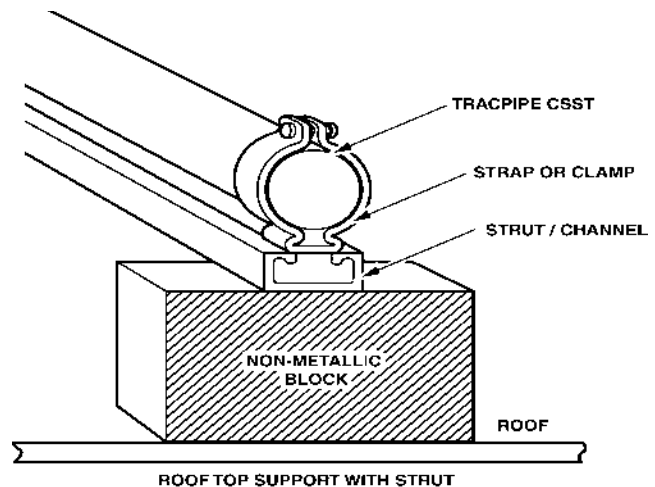

Figure: 4-18
3. **TracPipe**® may be supported with strut/channel running from block to block beneath the flexible gas pipe. Galvanized shallow channel (13/16 inch) with splice plates at joints and bends provides a secure, damage resistant “track”. With metallic strut support, blocks can be reduced to every 8 feet. The **TracPipe**® should be firmly attached to each block with metallic clamps designed for the strut or appropriate fastening mechanism. (See Figure: 4-18). Black cable ties (UV resistant) at intermediate points facilitate rolling out the **TracPipe**®. The blocks are to be attached to the roof surface in accordance with the roofing manufacturer’s instructions.